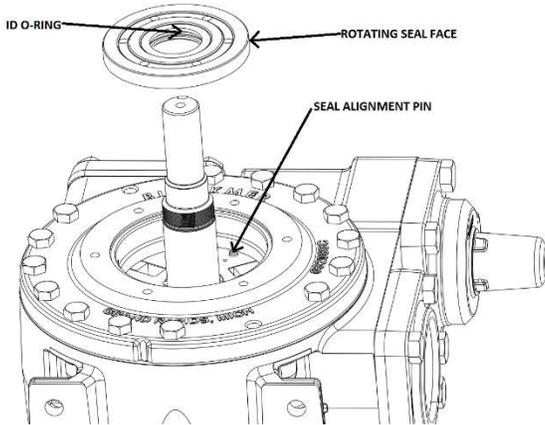

Figure 19 – Plan 52 Rotating Seal Face Installation
1. Install ID O-ring into Rotating Seal Face. Lubricate with compatible grease. See Figure 19.